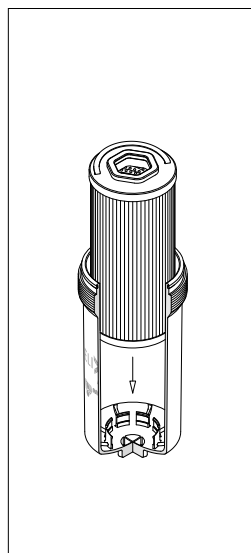

fig. 4
- (Fig. 4) Push the filter element into the bowl until the end cap hooks onto the internal teeth